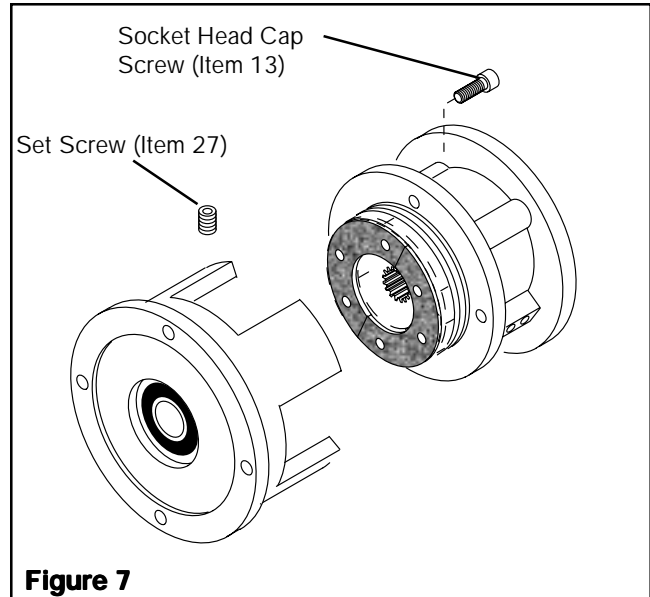

Figure 7
NOTE: If an Input Unit is installed on the FMCB, it must be removed before servicing the FMCB. Loosen the Set Screw (Item 27) to release the FMCB from the Input Unit shaft (See Figure 7).
1. Remove the four Socket Head Cap Screws (Item 13) and separate the two halves of the FMCB (See Figure 7).
9. Apply a drop of Loctite® 242 to the threads of the Socket Head Cap Screws (Item 13) (See Figure 7).